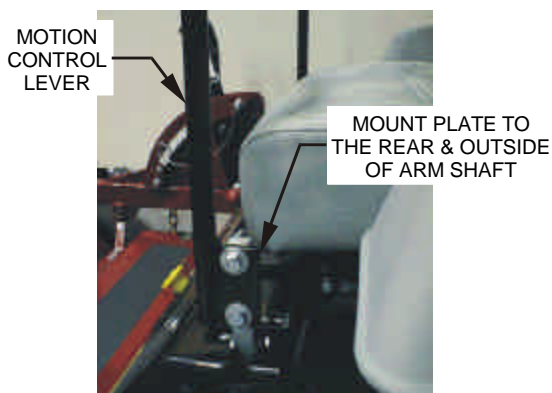

FIGURE 4
- 3.8.1 Loosen and remove the two (2) 3/8" x 1" bolts and spring disc washers which attach the motion control levers to the control arm shafts for shipping and the two (2) 3/8" x 1" bolts and spring disc washers which are screwed into the control arm shafts.
- a) Install the left motion control lever onto the control arm shaft (See Figure 4) on the left side of the console. Place the lever (with the mounting plate towards the rear) on the **outside** of the control arm shaft and secure with the bolts and washers. Position the lever so the bolts are in the center of the slots on the lever mounting plate and tighten until snug. Repeat on opposite side of unit.